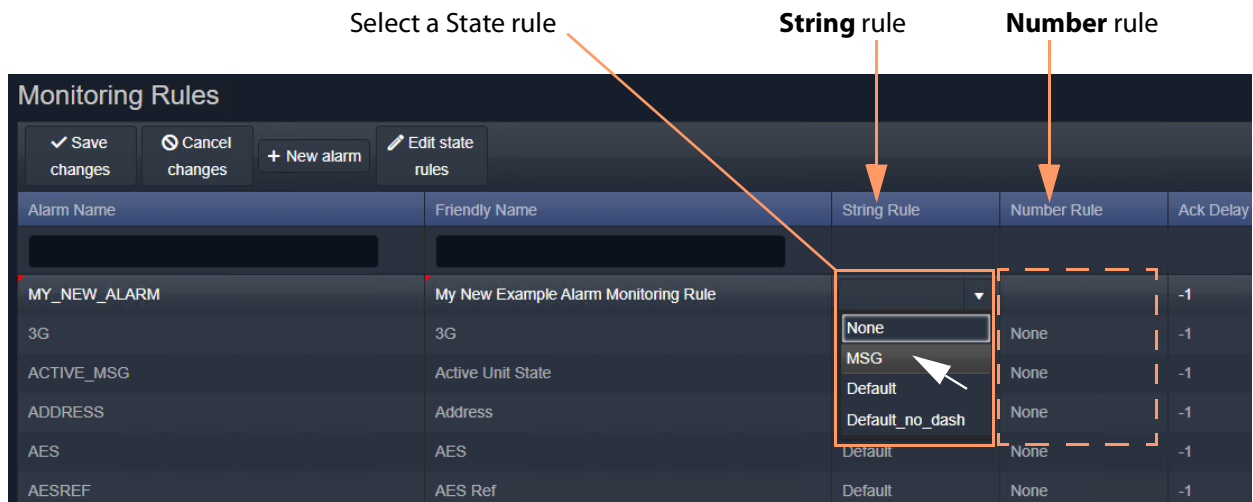

Figure 73: Select a State Rule to Use (String or Number)
- Select state rule to use (for example, a **String** rule and/or a **Number** rule). See Figure 73.